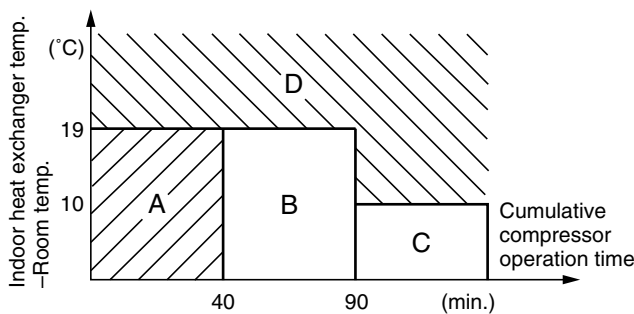

Fig. 7-11-1 (Indoor fan speed : M)
- (1) When the cumulative compressor operation time is longer than 40 or 90 minutes and difference between the indoor heat exchanger temperature and the room temperature is less than the specified value. (This value is decided by the microprocessor.) (Control example is shown in Fig. 7-11-1. In case of B or C, the defrost operation starts.)
- (2) When the current limit control or the high temperature limit control is performed for total of 90 minutes.